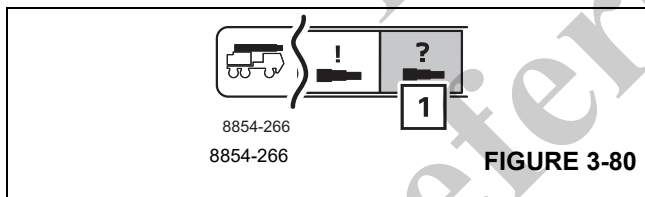

FIGURE 3-80
Select and confirm the symbol (1), (Figure 3-80) – the Access Reset Telescoping screen is opened.